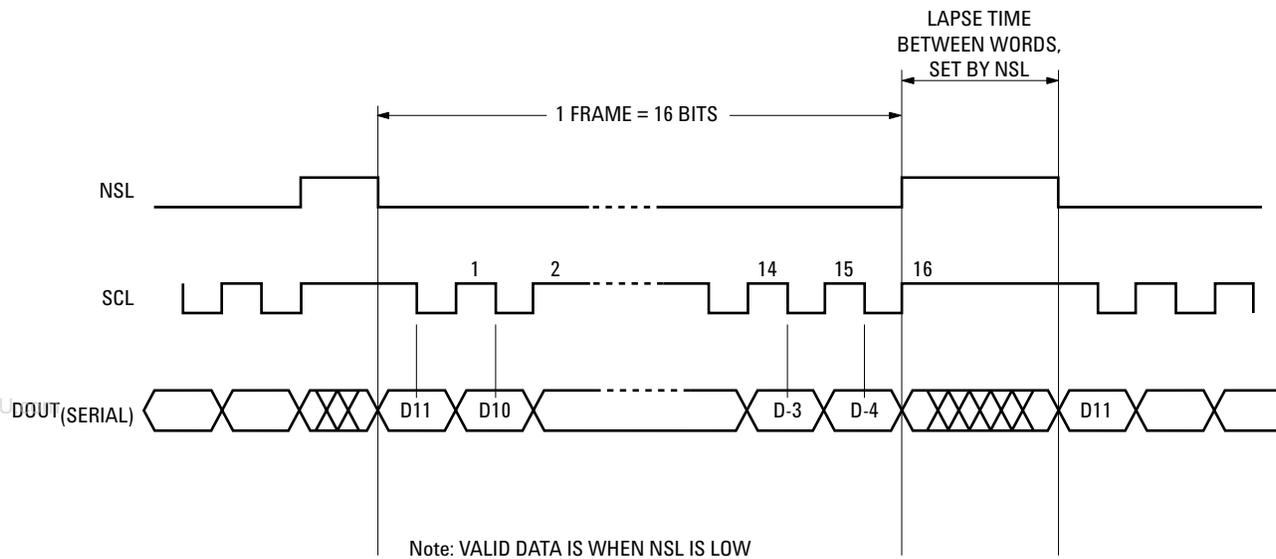

Figure 2. Timing diagram.
Valid data of DOUT should be read when the SCL clock is low. Please refer to timing diagram (Figure 2).
- 1) After powering up the unit using $V_{CC} = +5\text{ V}$ and connecting GND to ground, trigger input pins NSL and SCL using the timing diagram below (Figure 2). NSL is a control pin for the internal shift register. When triggered to low and combined with clock pulses, the serial Gray code will be shifted out to DOUT bit by bit per every clock pulse